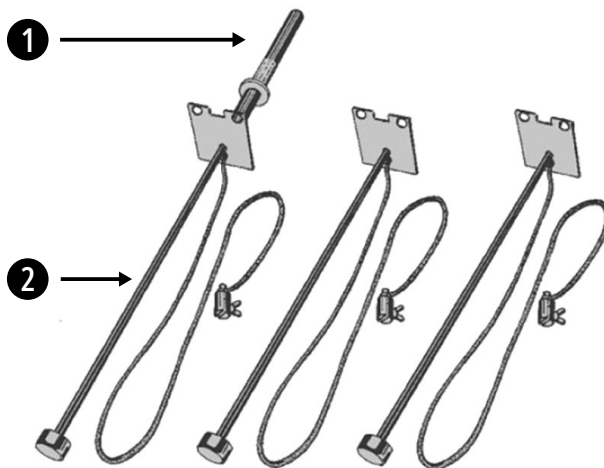

Figure 4-10: Earthing equipment
1. A single operating rod, see number 1 figure 4-10.
2. Three earthing pins with earth contact and earthing cable (25 mm²) with connecting clamp, see number 2 figure 4-10.